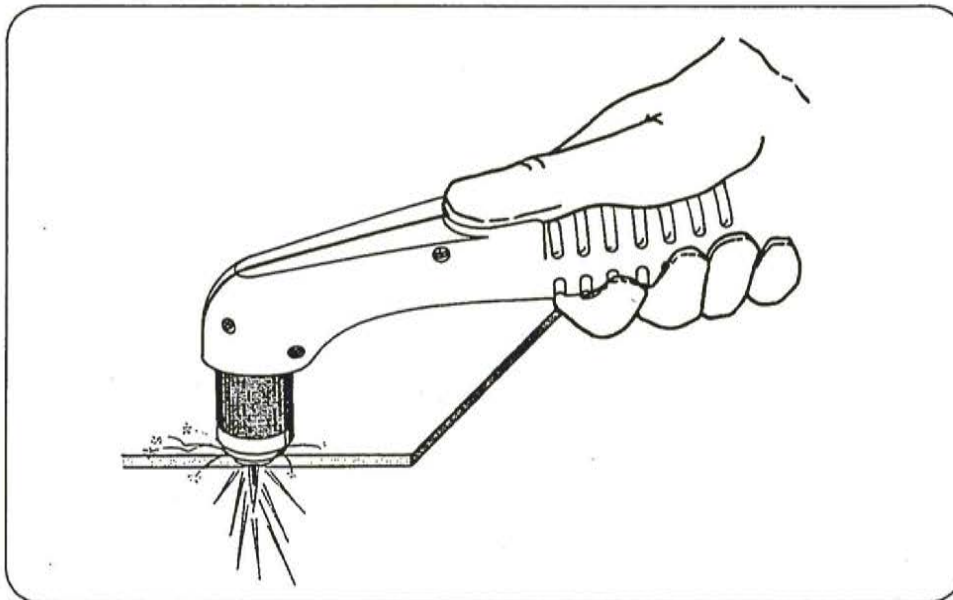

Figure 4-5 Starting a Cut
- Start cutting from the edge of the workpiece (Fig. 4-5) unless you must pierce. For tips on piercing, see *Piercing*.